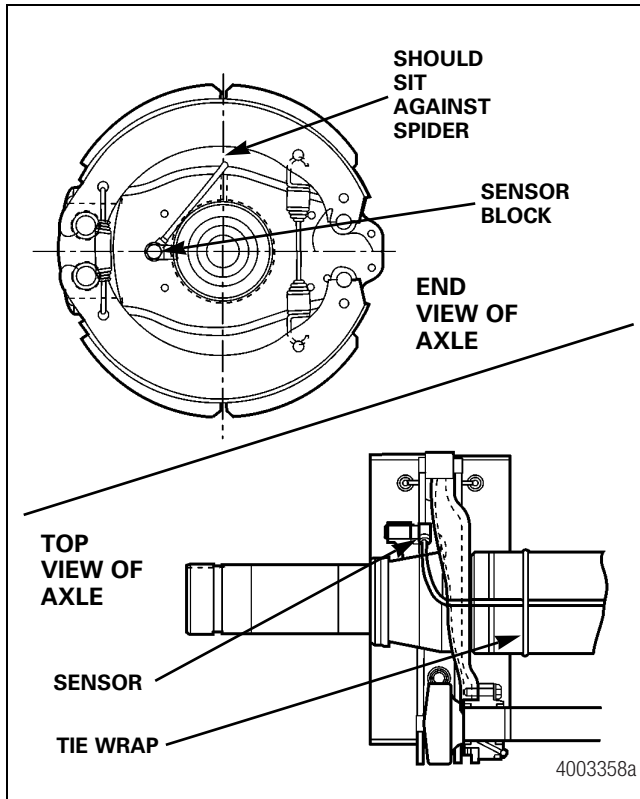

Figure 54
- Route the ABS wires on TP and TR model axles equipped with cam brakes without an ABS spider hole as follows. Figure 54.